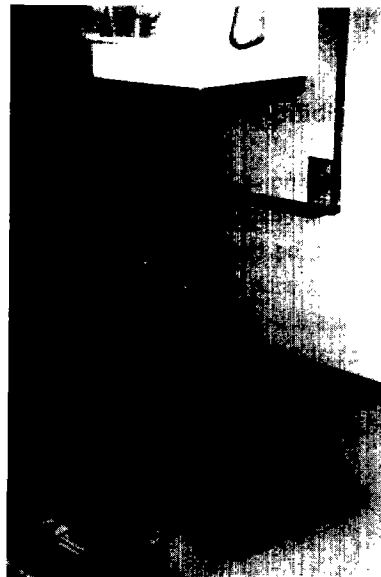

Fig 2-3. Film/screen contact test, using paper clips as a test tool
- Test tool (box of paper clips or sheet of perforated zinc or fine wire mesh, large enough to cover a 35 × 43 cm film, with a square hole, about 10 cm from one edge, approximately 2 to 2 cm square). (see Fig 2-3 and *Appendix A*, page 134).